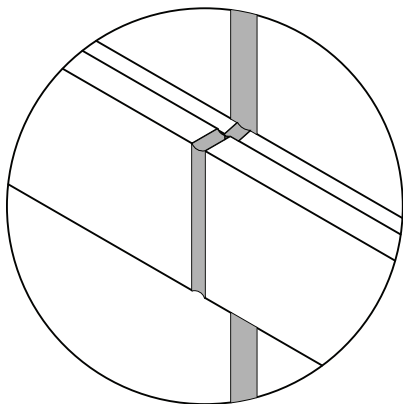

FIGURE 26
- 3.25 Horizontal face caps should be centered in opening. The face caps on SSG system should be spliced every three bays and have a minimum 1/4" joint between each cap. This joint should be sealed by installing backer rod and sealant between caps. **See FIGURE 26, page 27.**